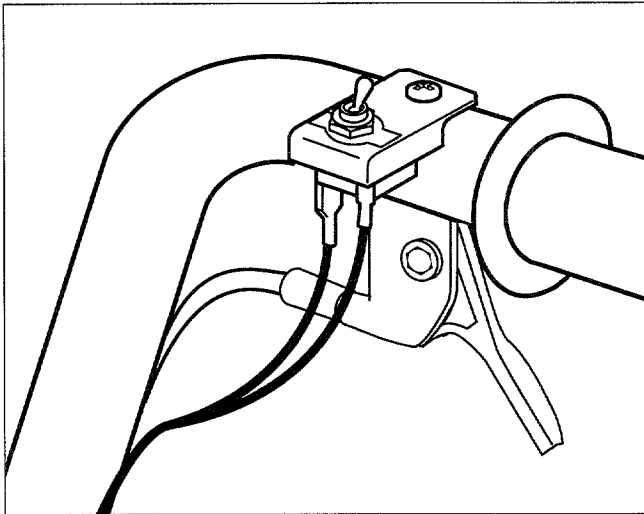

Figure 7: Two wires are attached to the On/Off switch assembly.
16. There are two wires attached to the On/Off switch assembly. See Figure 7. Each wire has a different colored connector at the other end.